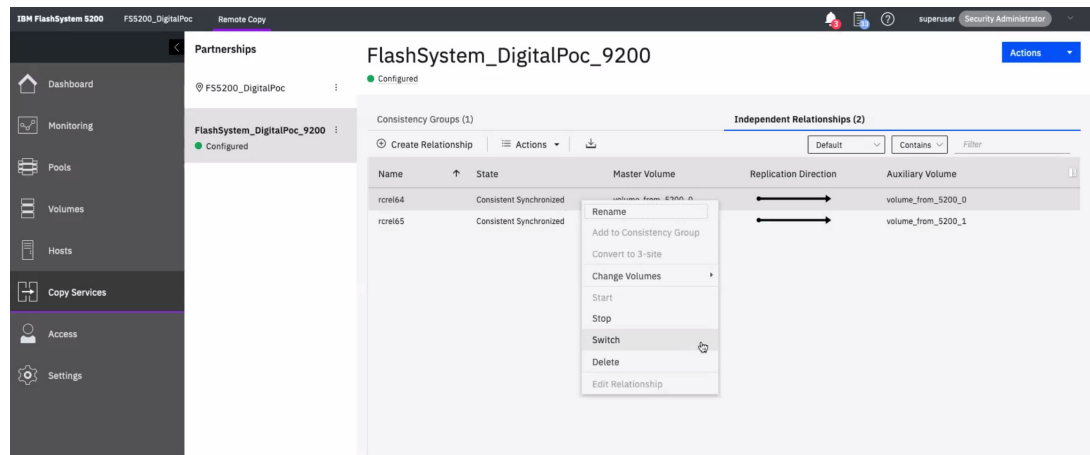

Figure 8-33 Approval state to switch relationship
- Issue the **switchrelationship** command through the CLI, which changes the direction of the relationship so that the target system becomes the master and the source system becomes the auxiliary in this relationship. This step also can be done through the GUI, as seen in Figure 8-33. Select the individual volume and right-click to choose the **Switch** option.